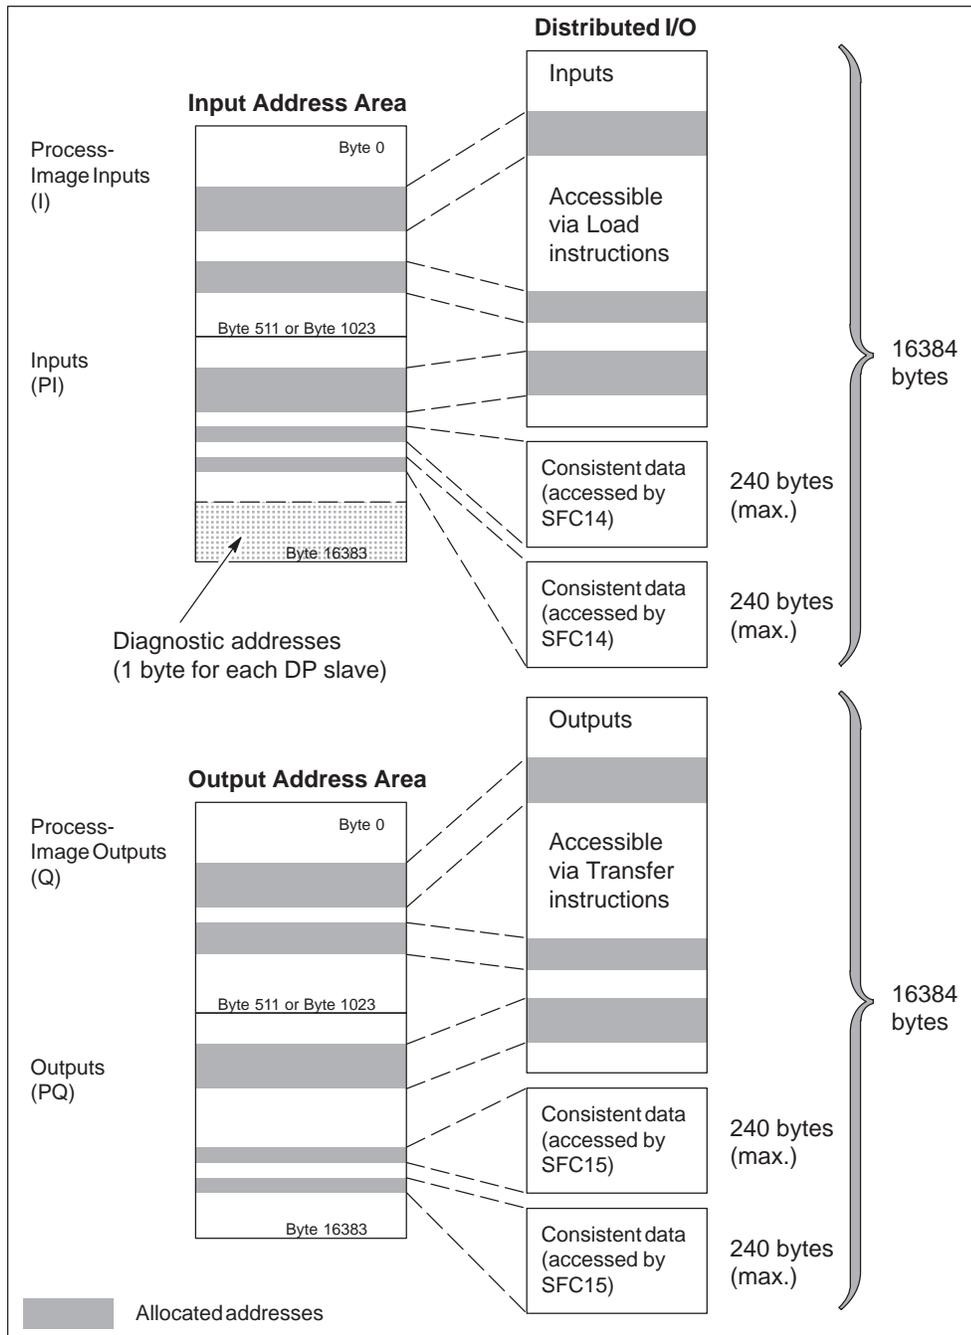

Figure 6-5 Accessing the Distributed I/O
- To access data as bytes, words, or double words (that is, as 1 byte, 2 bytes, or 4 bytes), use the Load (L) and Transfer (T) instructions (for statement list) or the Assign Value (MOVE) instruction (for ladder logic) to read and write the distributed inputs and outputs. See Figure 6-5. I/O data may be assessed from the process image (I) area or from the peripheral image (PI) area.
As shown in Figure 6-5, the user program can access up to 16384 bytes (each) of inputs and outputs by using the Load (L) and Transfer (T) instructions (for statement list) or the Assign Value (MOVE) instruction (for ladder logic).